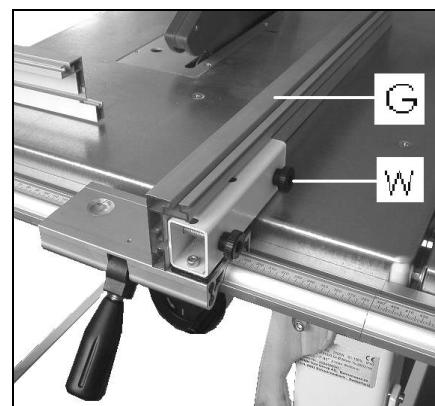

Fig 19
Use 2 bolts and wing nuts (W, Fig 19) to attach the aluminium profile (G) to the rip fence body
-Use in upright position (Fig 19) for cutting wide stock: